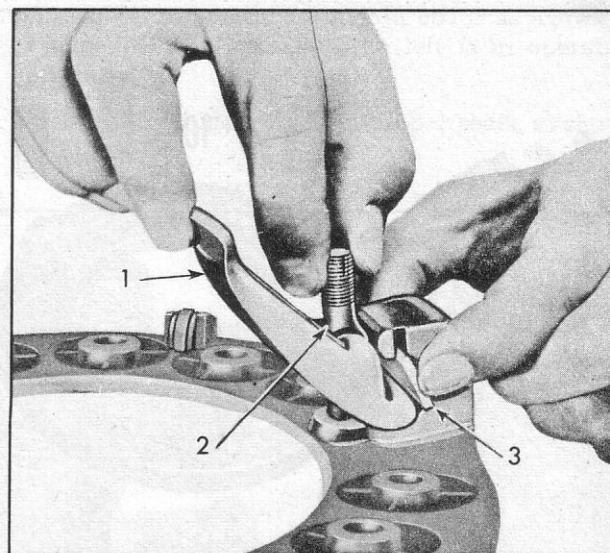

Fig. 11—Removing Levers (Step 2)
5. Lift strut over ridge on end of lever, (fig. 11).
4. Insert lower end of eyebolt in hole in pressure plate. The short end of the lever will then be under the hook of the pressure plate and near the strut (fig. 11).